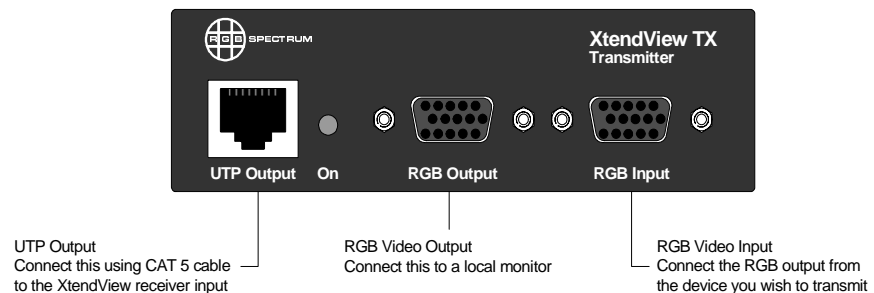

Figure 2-1. *XtendView* TX Front Panel connections
1. Connect a standard 15 pin VGA cable to the RGB input connector (if you are using composite or S-Video signals use a VGA to BNC adapter cable) and connect the other end of the cable to your PC or video source (Figure 2-1). If you need information on cables or connector pinouts please consult the “Video Inputs” section below for information.